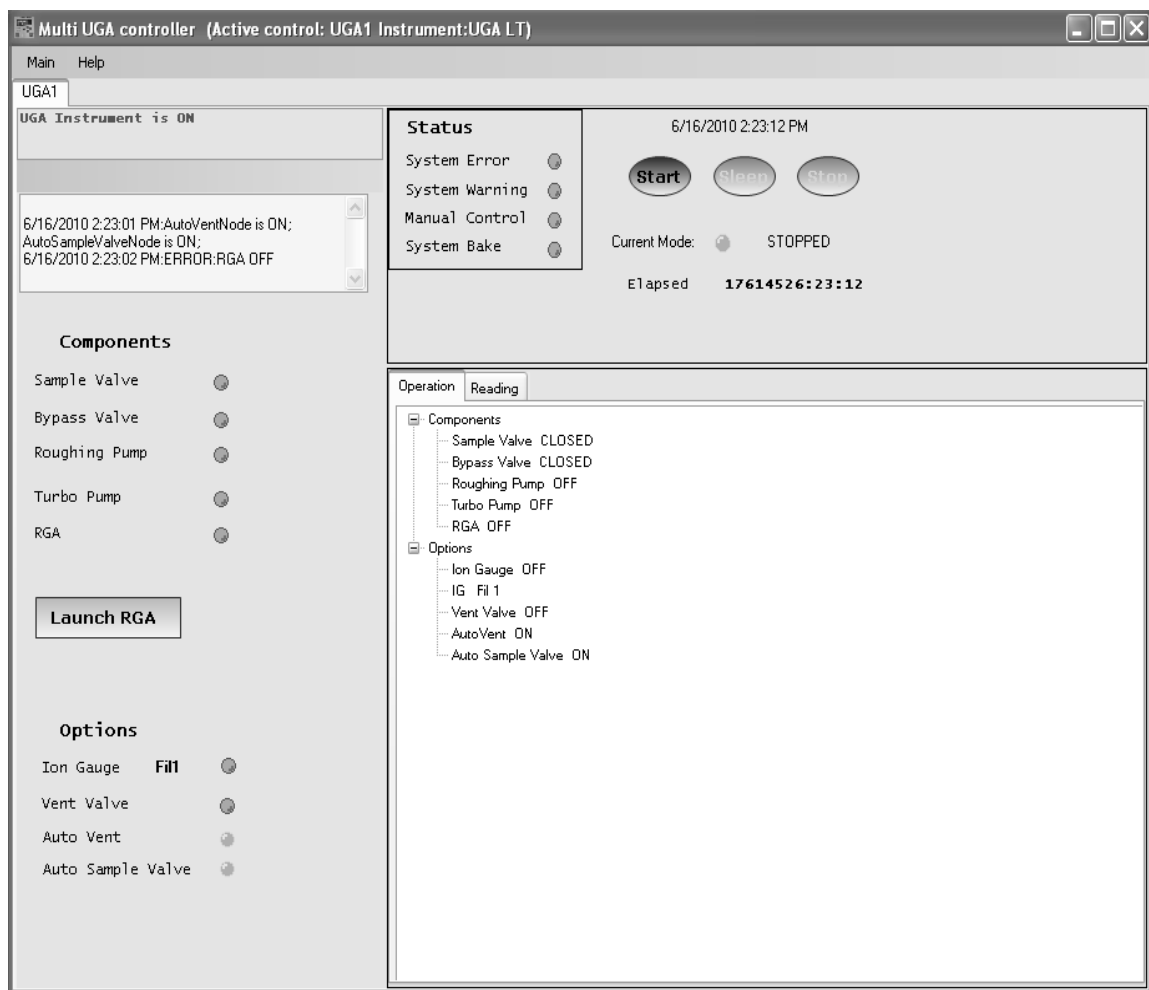

Fig. 2-15. Screenshot of UGA control software after proper TCP/IP Ethernet connection. In the title bar, the connection is described.
- The program shows the complete present state. Fig. 2-15 shows that Ion gauge is installed in this Unit. The unit is stopped, which is the Off state, etc.
The UGA control program is a Windows based software written in the C# language using .NET framework. The main user interface window is composed of several areas - Title bar, Menu bar, Message sub-window, Log sub-window, etc as seen in Fig. 2-15. In this section, the menus and displays of the program are described in detail.